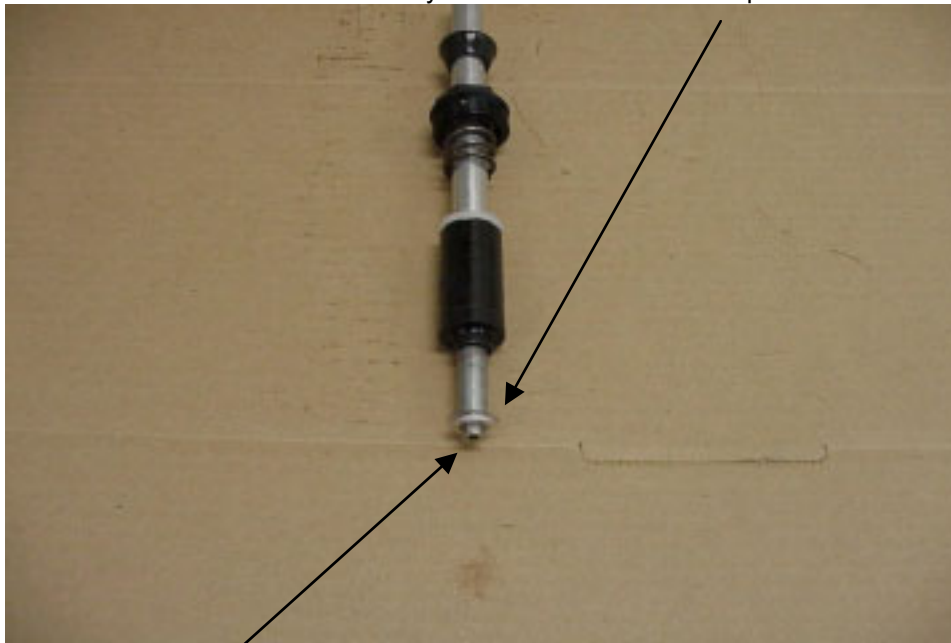

Figure 2
6. Fully extend the damper shaft and slide the rubber bumper against the inner leg end cap. Insert the crown/steer assembly into the outer legs to the upper bushing. Holding the fork horizontal, inject 16cc of 5-40wt Semi bath oil into the hole at the bottom of each outer leg (Figure 2). A syringe works well for this procedure.
3. Pull spring out of inner leg. If spring will not come out, you must take the outer casting off of inner legs (refer to Removal of Outer Casting instructions). Then remove the end cap from the bottom of the left leg and remove the Wind Down compression rod assembly and spring as a single unit through the bottom of the leg. You will find that on earlier production fork models, that there is a nylon washer at the top of the compression rod assembly that is holding the spring in place. Hold the spring in one hand and the compression rod assembly in your other hand and pull the apart from each other at a slight angle to each other. Once you have the two apart, remove the Allen bolt on top of the compression rod with a 4mm Allen wrench and remove the nylon washer (Fig 2). Re-install the bolt without the washer, it will not affect the operation of the Wind Down mechanism and insure that you will not have to take the whole fork apart in the future to change ride kit springs. (Note: the spring that you remove should have another spring (booster spring) intertwined within it)